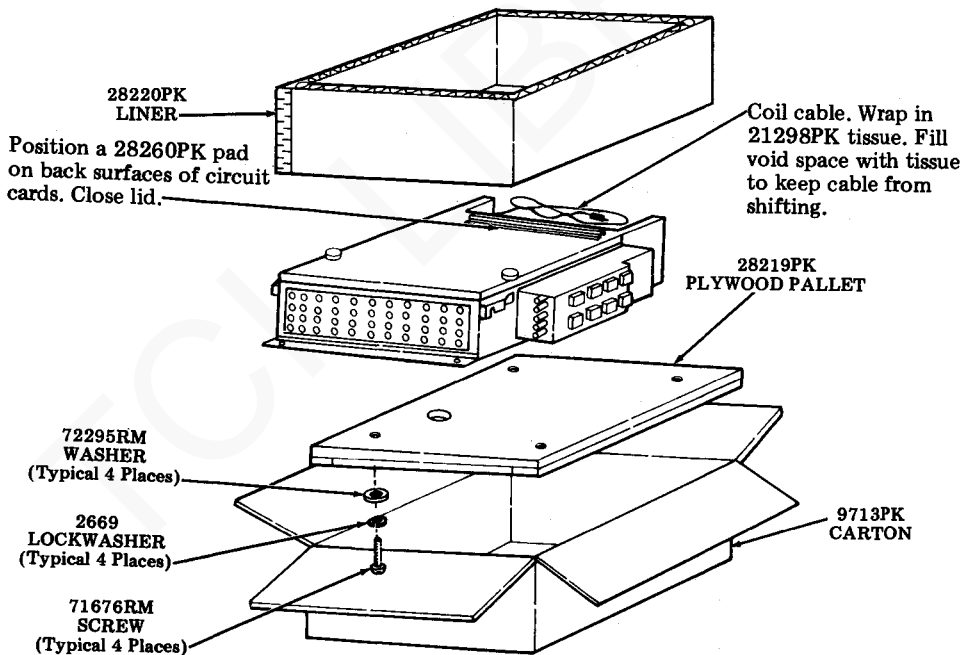

Fig. 62
- Step 1. Mount unit frame to a 28219PK plywood pallet with four 71676RM screws, four 2669 lock-washers and four 72295RM washers as illustrated in Fig. 62. The large hole in the pallet must be in line with the hole used to mount the PSU in the base.
- Step 2. Open cover of unit. Position a 28260PK pad on back surface of circuit cards. Close cover and secure in place. (See Fig. 62.)
- Step 4. Coil unit cable and secure with a 50136PK twist tie. Place palletized unit in carton. (See Fig. 62.)
- Step 5. Form a 28220PK liner and place in carton around unit. (See Fig. 62.)
- Step 6. Position cable at back of unit. Fill void space with 21298PK tissue to keep cable from shifting. (See Fig. 62.)